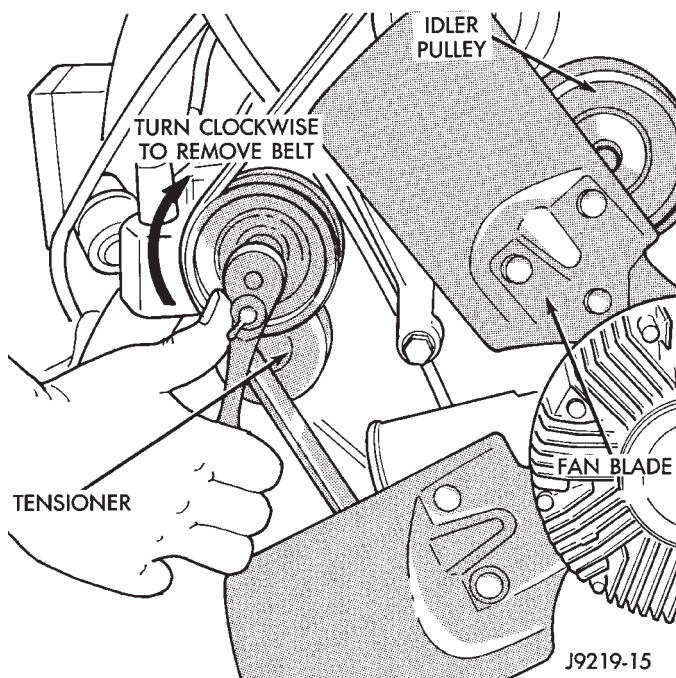
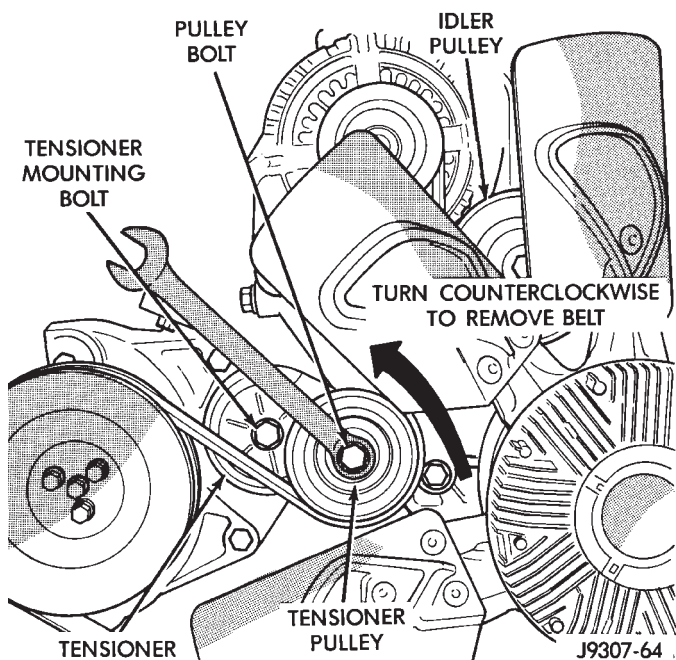

Fig. 40 Belt Tensioner—3.9L V-6 or 5.2/5.9L V-8 LDC-Gas Engines
Fig. 41 Belt Tensioner—5.9L HDC-Gas Engine
(12) Remove accessory drive belt as follows: The drive belt is equipped with a spring loaded automatic tensioner (Fig. 40) (Fig. 41).
(13) 3.9L V-6 or 5.2/5.9L V-8 LDC-Gas Engines: Relax the tension from the belt by rotating the tensioner clockwise (as viewed from front) (Fig. 40). When all belt tension has been relaxed, remove accessory drive belt.
(14) 5.9L HDC-Gas Engine: Relax the tension from the belt by rotating the tensioner counterclockwise (as viewed from front) (Fig. 41). When all belt tension has been relaxed, remove accessory drive belt.
(10) Relax tension from automatic belt tensioner (Fig. 40) (Fig. 41). Install drive belt.